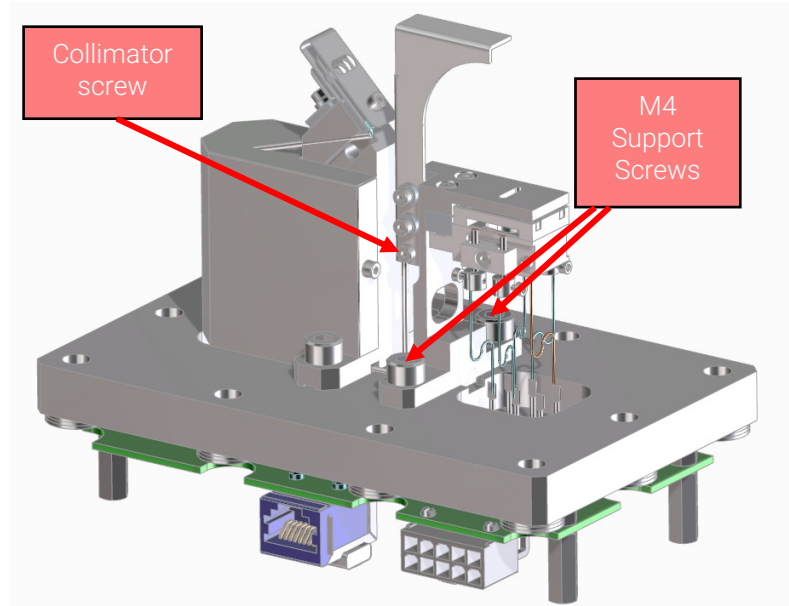

Figure 3-7. M4 support screws
15. On a clean work surface, remove the two M4 support screws. See Figure 3-7.